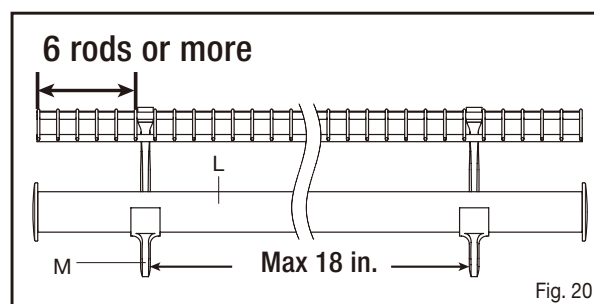

Fig. 20
- ☐ Count 6 rods or more from one side of the wire shelf and install closet rod brackets as shown. Maximum spacing between closet rod brackets is 18 in. for this system (see Fig. 20).